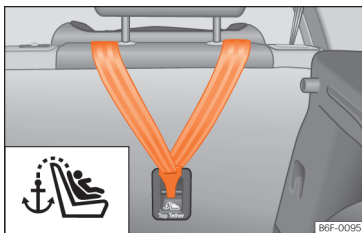

Fig. 42 Rear part of the rear seats: securing rings for the Top Tether strap.
- Slide the strap and secure it properly with the anchor on the rear seat backrest >>> Fig. 42.